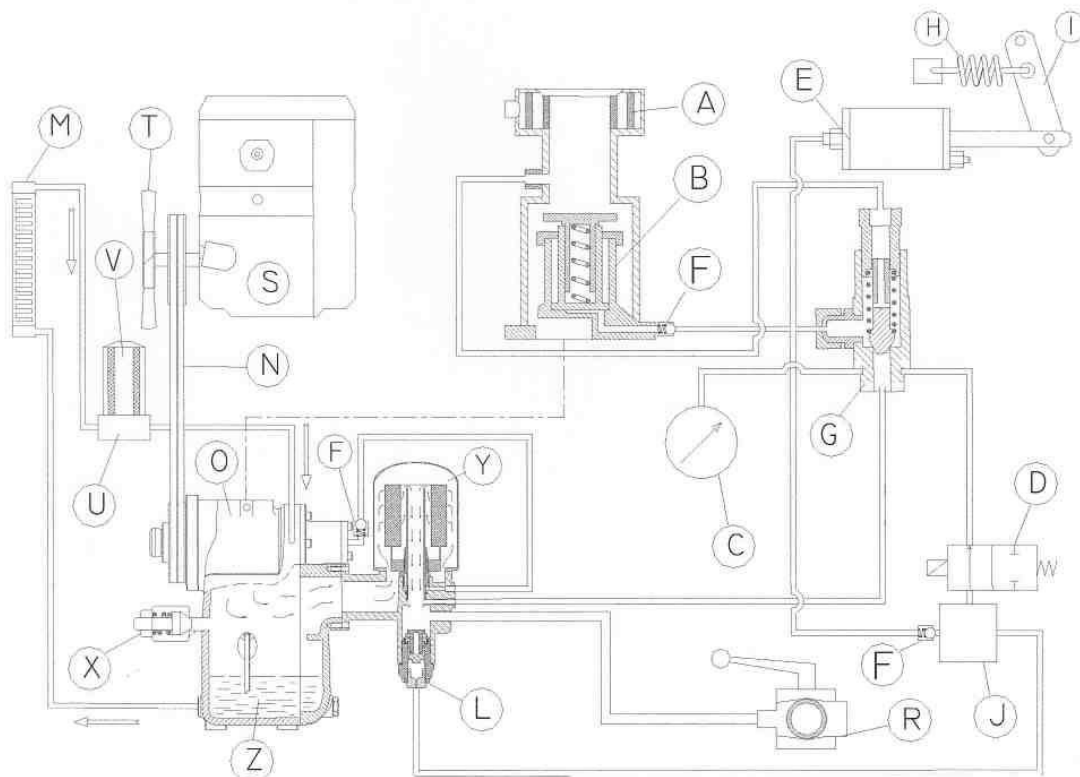

FIG. 2
- 6) OLEOPNEUMATIC PLANT (Fig. 2) --
The system includes the oil separator tank (Z), the oil filter (V) and the oil cooling radiator (M). As shown in fig. 2 the lower part of the oil separator tank (Z) acts as an oil tank, while the filtering part is situated at the top which separates the air from the oil. On starting up the machine, the pressure generated by the compressor, makes the oil inside the tank flow through the conduit in the direction indicated by the arrow.
-- 6-9-3) AUTOMATIC MOTOR SPEED REGULATION (Fig. 2) --